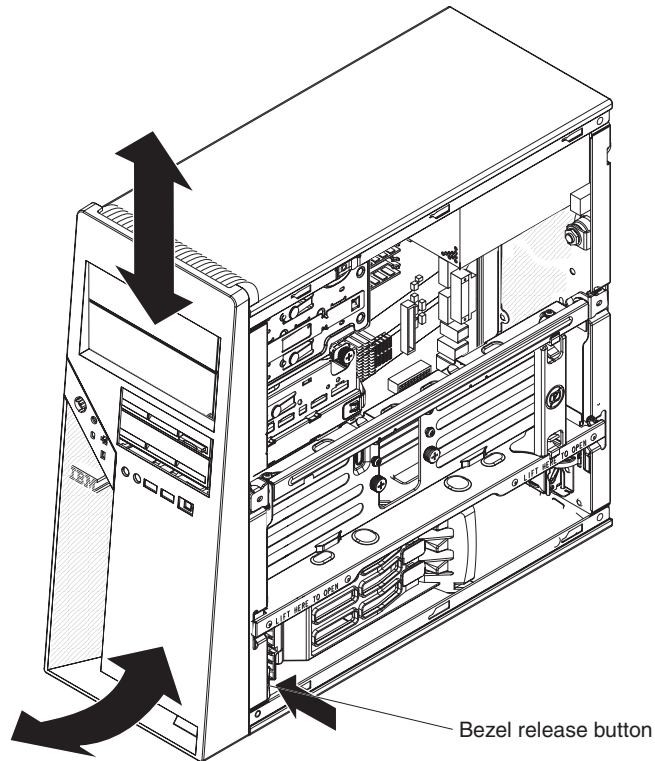

Figure 13. Installing the bezel
1. Insert the four tabs at the top of the bezel into the matching holes on the computer chassis above drive bay 1 (see Figure 13).